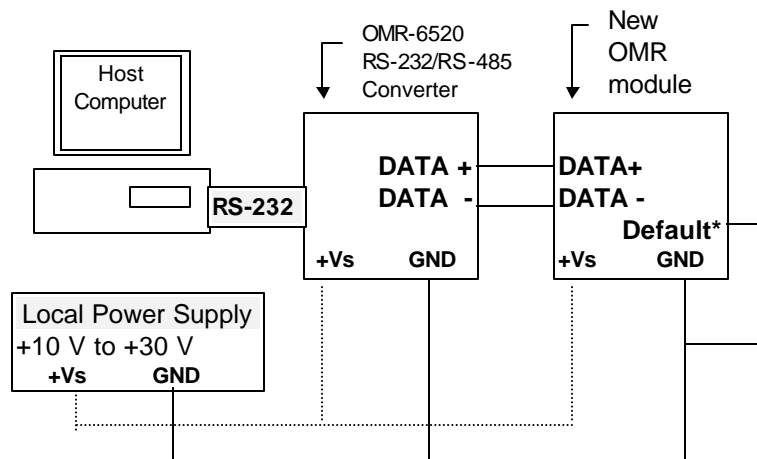

Figure 4-1 Layout for Configuring the OMR module
2. Connect a brand new OMR module with the RS-485. Refer to Figure 4.1 for detail wiring.